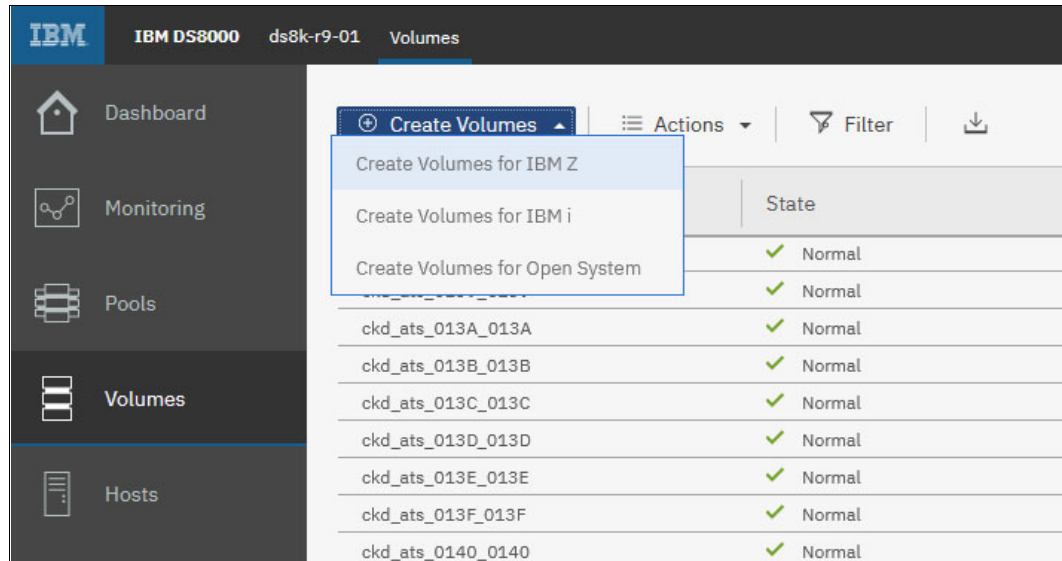

Figure 9-48 Create Volumes dialog
3. From this view, click **Create Volumes**. The Create Volumes dialog opens listing various operating system platforms, as shown in Figure 9-48 on page 261.
1. From the **Create Volumes** drop-down menu (Figure 9-48 on page 261), click **Create Volumes for Open Systems**.